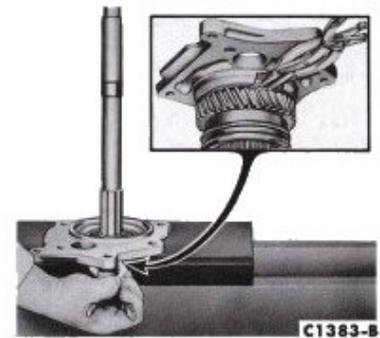

FIG. 19—Adapter Plate Removal
17. Spread the retaining snap ring (Fig. 19) and press or tap the
5. Working from the rear of the output shaft, slide the first and second-speed synchronizer onto the shaft. The sliding clutch sleeve long taper should face the rear (Fig. 19).
8. Install the adapter plate on the output shaft rear bearing by spreading the snap ring in the adapter plate and tapping or pressing the plate over the bearing (Fig. 19). Release the snap ring.